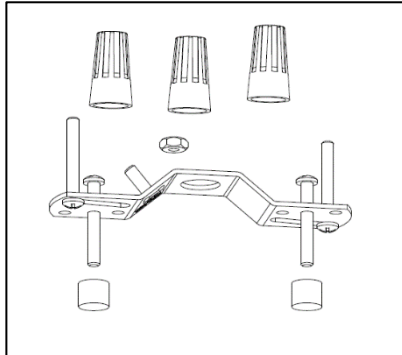

Figure 2
2. Remove fixture components and parts pack from carton box and Check that Black, White, and Copper wires are extending from the back of fixture(MVOLT version will have Pink and Purple wires as well). Check that all parts are included, shown in *Figure 2* and *Table 1*.